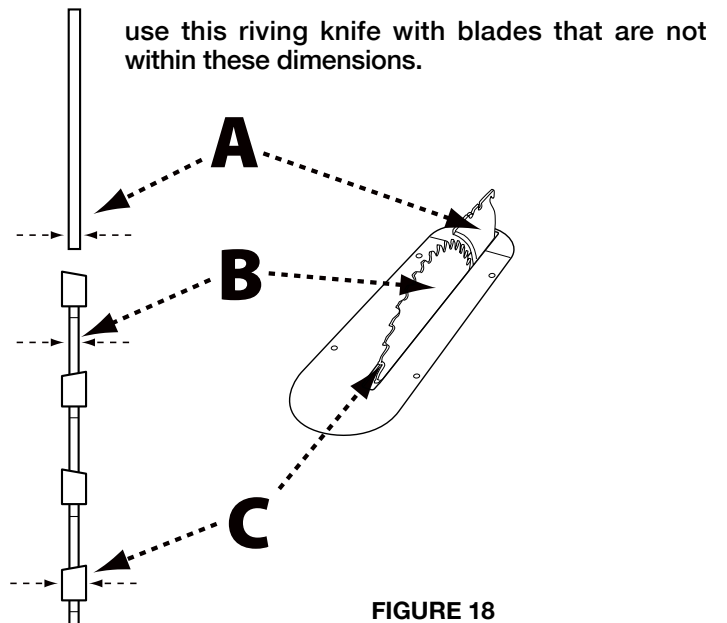

FIGURE 18
**NOTE:** Safety devices, blade guard assembly and anti-kickback assembly have been removed in Figure 18 in order to show the location of specific features. When operating the saw, these safety devices should be in place and working properly.